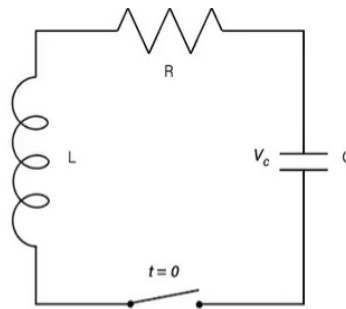

Figure 1. Series RLC circuit.
RLC circuits, composed of a resistor (R), inductor (L), and capacitor (C), are common in many pulsed power systems because of their natural ability to store and transfer energy for fast, controlled energy bursts (Figure 1). The behavior of an RLC circuit, particularly during rapid energy discharge, determines the shape and characteristics of the resulting pulse.